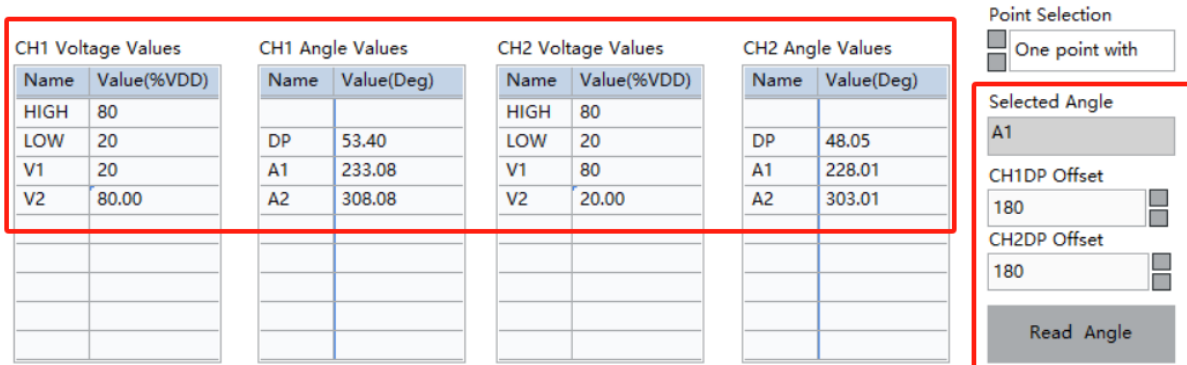

Figure 5.1.11 Set the A2 point automatically with the slope
- Click the "Angle value" box corresponding to "A1" of CH1, set the magnet (sensor) Angle to the first position that needs to be programmed, click the "Selected Angle" button to read the current chip Angle value after stabilization, and display it in the Angle value A1 of CH1 and CH2. The A1 Angle of the current read chip Angle CH1 is 91.17°. The A1 Angle of CH2 is 268.5°, while the host computer automatically calculates the voltage and Angle value of A2 point and fills in the corresponding position (Figure 5.1.11).